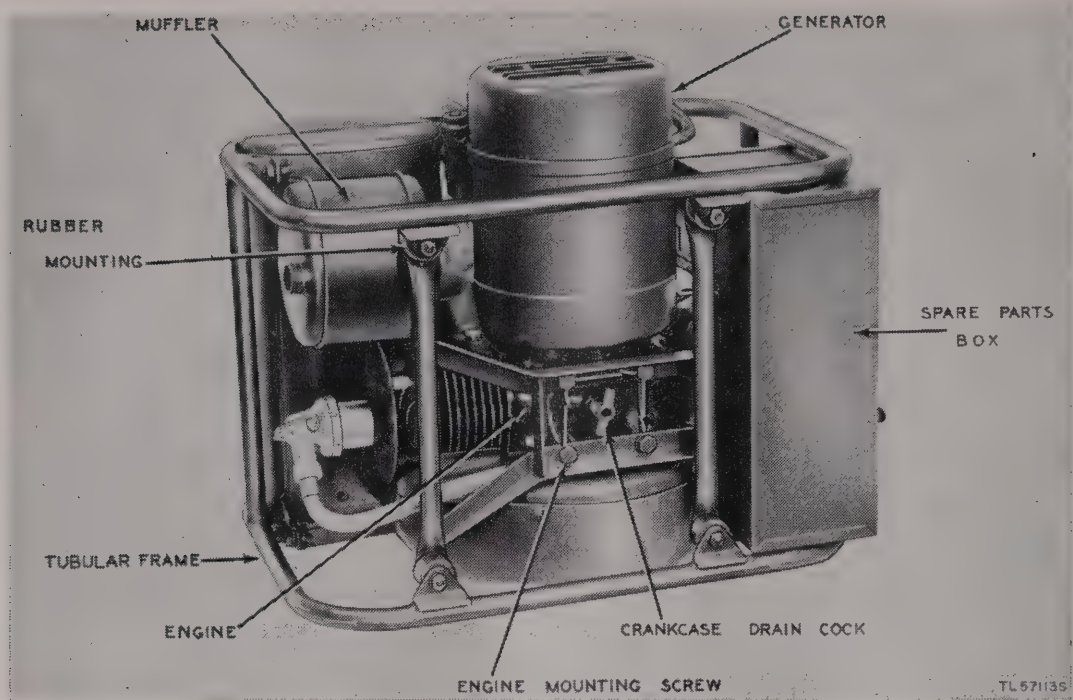

Figure 15. Power Unit PE-210, bottom view.
- (b) Remove nut and washers from each stud that holds the engine base to the rubber-shock mountings (fig. 15).
- (c) Remove engine from its mounting base by taking out the four screws holding it in place (fig. 15).
d. Connect the fuel line to the fuel shut-off valve under the fuel tank. Install drain valve in bottom of crankcase (fig. 15).